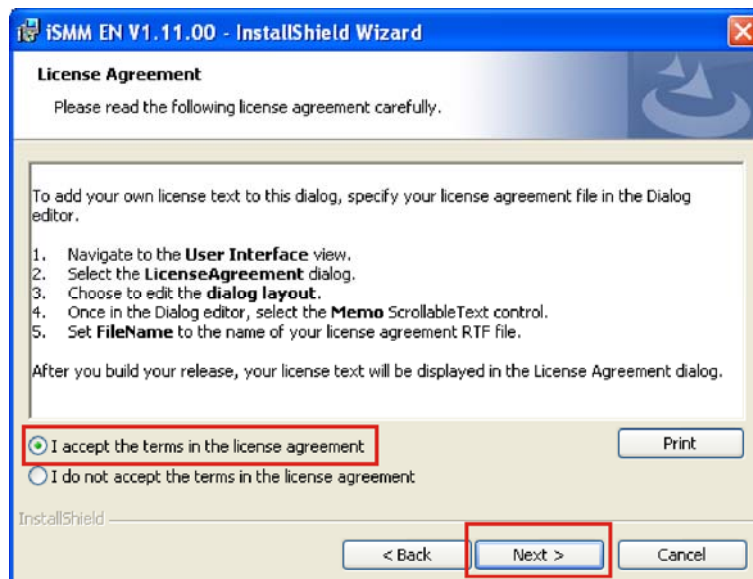

Figure 6-38: iSMM License Agreement
Step 9: The **License Agreement** screen appears. (Figure 6-38)
Step 10: Select “I accept the terms of the license agreement.” (Figure 6-38)
Step 11: Click **NEXT** to continue.(Figure 6-38)